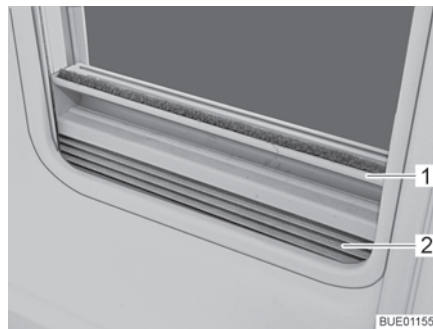

Fig. 36 Roman shade
- Closing:** ■ Grip the Roman shade (Fig. 36,2) in the middle of the holding bar (Fig. 36,1), pull it upwards and then release it at the desired height. The Roman shade will stay at this height.